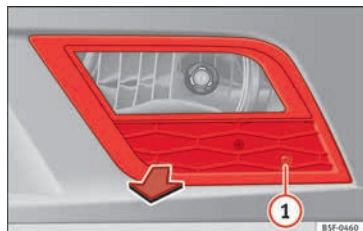

Fig. 110 Front fog light.
- Remove the bolt » **Fig. 110** **①** from the fog light grille with a screwdriver.